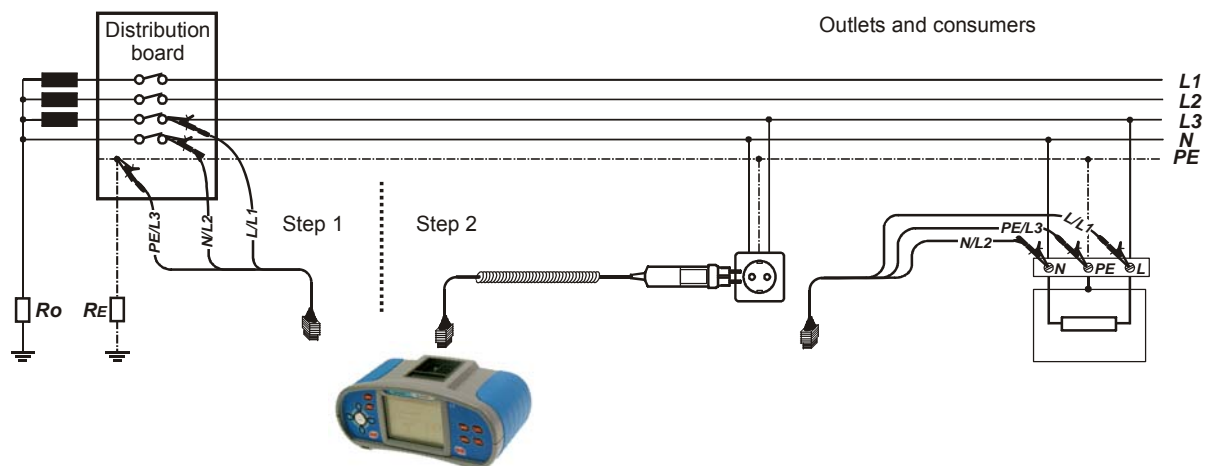

Figure F.1: Two step procedure for PE wiring resistance measurement – connection of plug commander and universal test cable
- ❑ **Connect** test leads to the tested distribution board and the instrument (see figure F.1).
- ❑ **Connect** test leads to the tested wall socket or consumer and the instrument (see figure F.1).